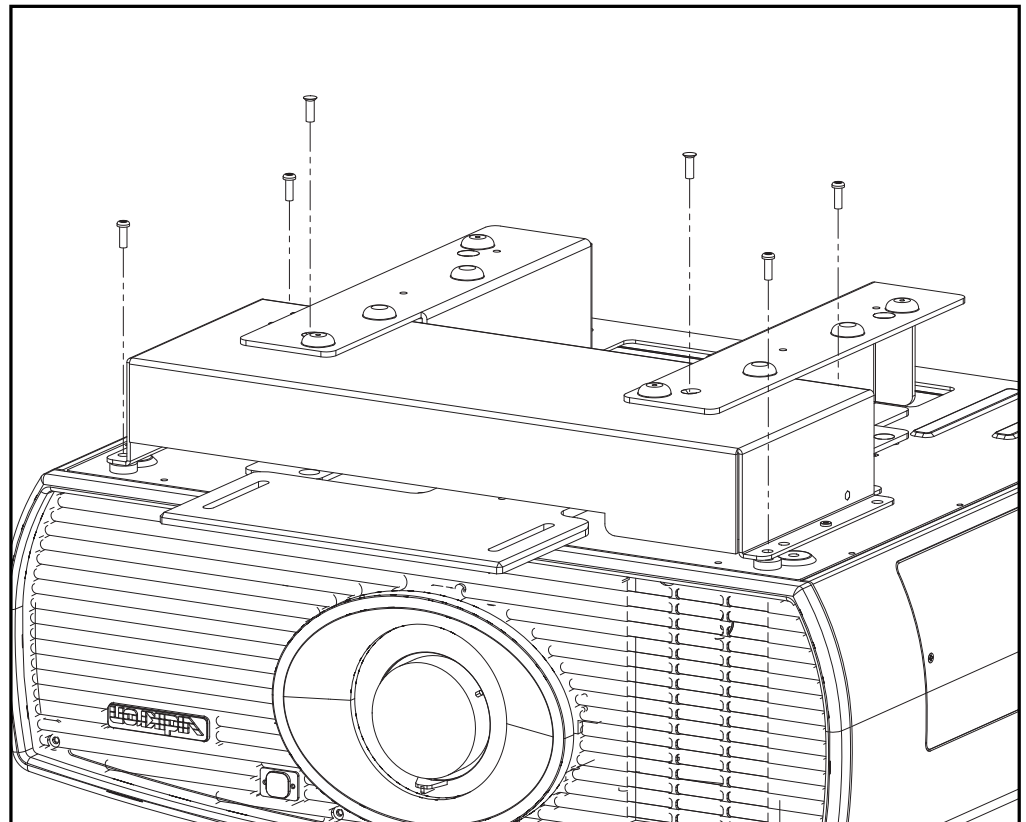

Figure 3-7. AutoScope Lens Motor Installation
1. Position the AutoScope Lens Motor (item #2) as shown in Figure 3-7.
3. Secure the motor to the projector with the four (4), supplied 10-32 x 1/2" Pan-Head Phillips screws (item #1) and nylon spacers (item #7).
4. Secure the AutoScope Ceiling Mount Adapters/Projector Stands to the motor using the two (2), supplied 10-32 x 1/4" Flat-Head Phillips screws (item #3).